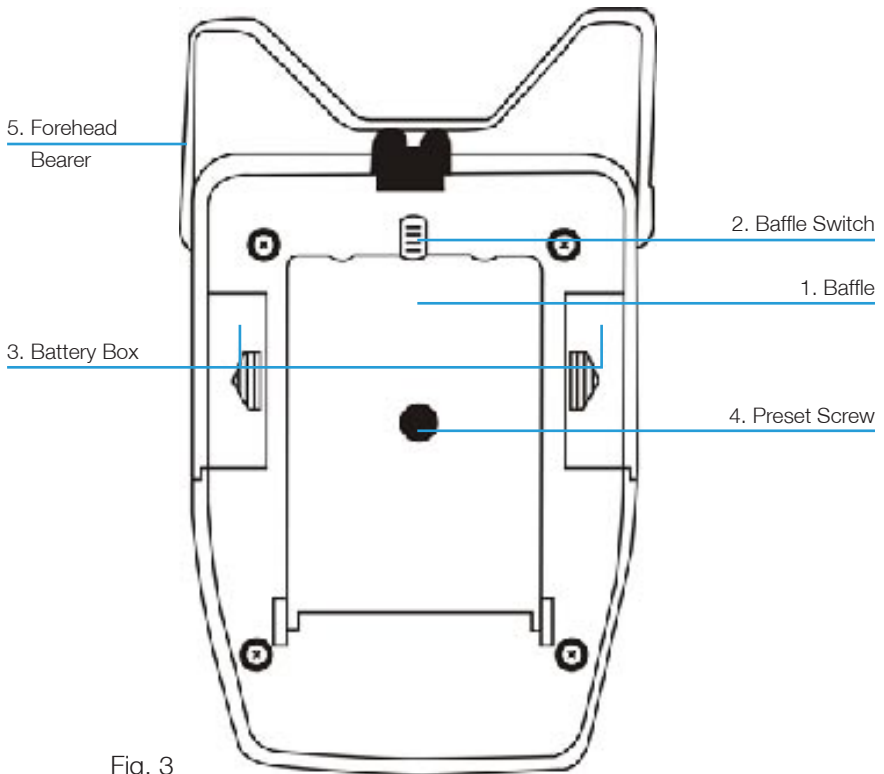

Fig. 3
2.2 Description of Rear Panel (as shown in Fig.3)